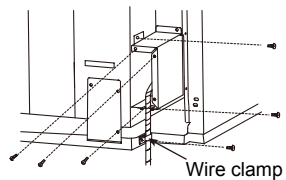

Fig.16—Wire Clamp
* Use wire clamp to attach power cord to basepan.Secure with screws (included) See Fig. 16.